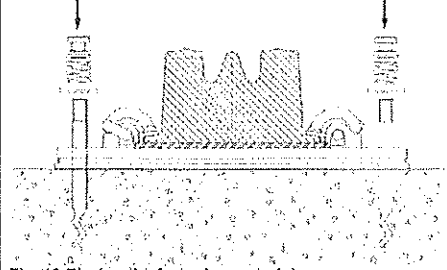
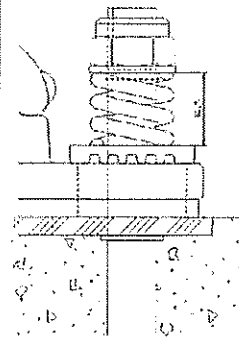

Fig. 13-Placing the fastening materials
Fig. 14-Defined height level
3. Place insulation bushes, helical springs, collared washers and self-locking hexagonal nuts on the anchor bolts and tighten them, Fig. 13. The compression springs must be tightened up to the defined height level – required torque: approx. 40Nm, Fig. 14.